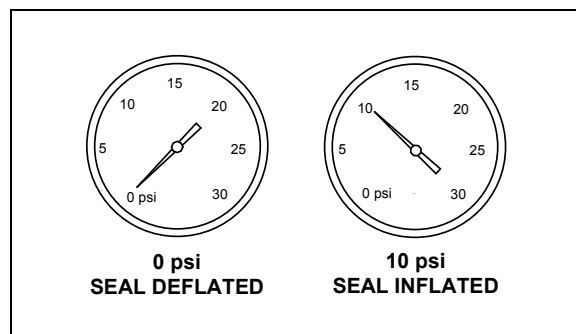

FIGURE 93 : INFLATABLE SEAL PRESSURE GAGE
4. Finally, the inflatable seal can be re-inflated by turning the shut-off valve handle counterclockwise. Check the pressure gage on the inflatable seal regulator to see if the pressure is increasing to 10 psi (FIGURE 93).
7. Finally, the inflatable seal can be re-inflated by turning the shut-off valve handle counterclockwise. Check the pressure gage on the inflatable seal regulator to see if the pressure is increasing to 10 psi (FIGURE 93).